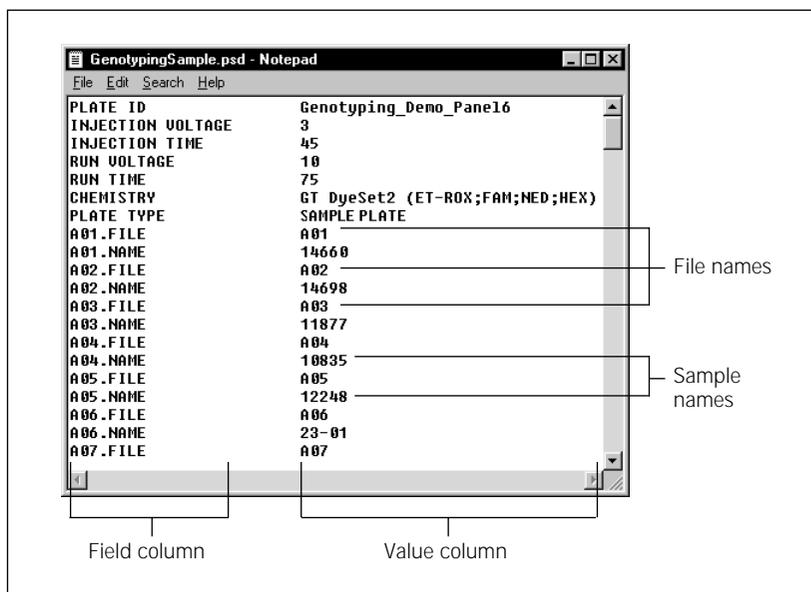

Figure 5-3. Example of a .psd file for genotyping with entries to designate the well ID as the file names.
You type the file name in the value column to designate the file name. The following and figure 5-3 show examples of what you might enter into the .psd file to designate a file name that is different from the sample name.
2. Type the fields and values for the plate (figures 5-3 and 5-5) using the appropriate format (section 5.2). See table 5-1 for a list of field names.